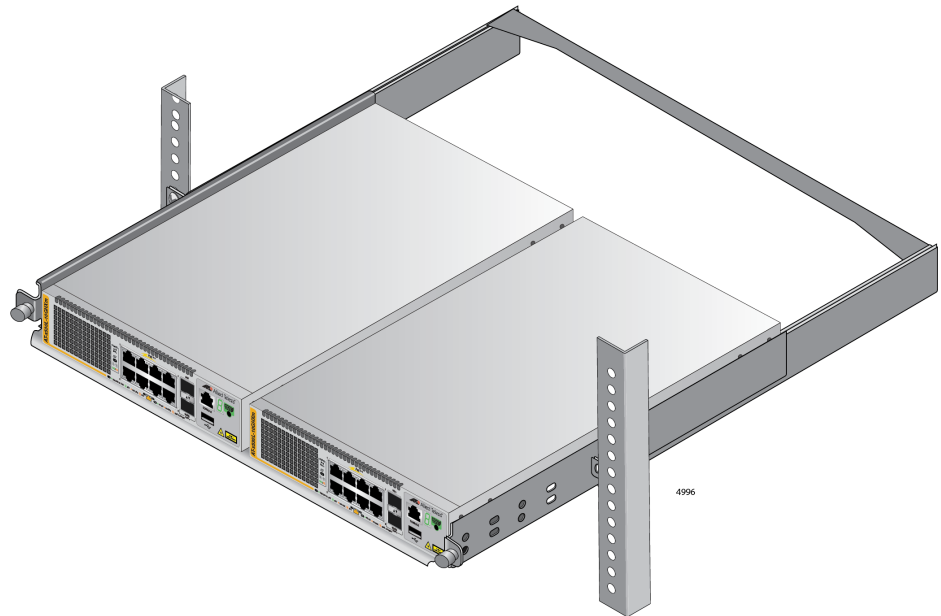

Figure 49. Sliding in the Bracket
10. Slide in the bracket tray. Refer to Figure 49.